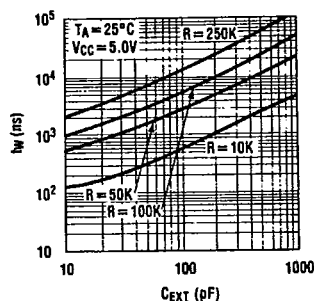

FIGURE 2
5. For  $C_X < 1000$  pF see Figure 2 for  $T_W$  vs  $C_X$  family curves with  $R_X$  as a parameter: